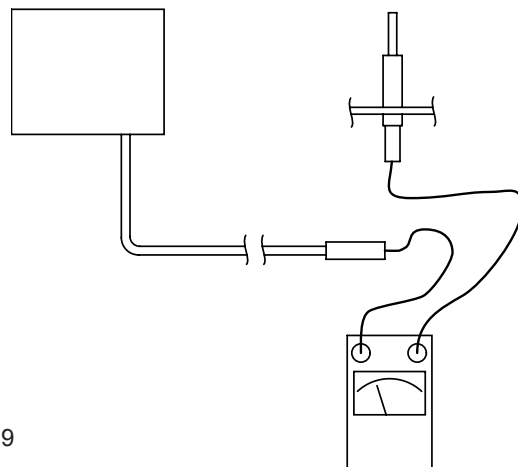

Fig. 9
- Carry out functional check on all control and safety devices (see Fig. 9).